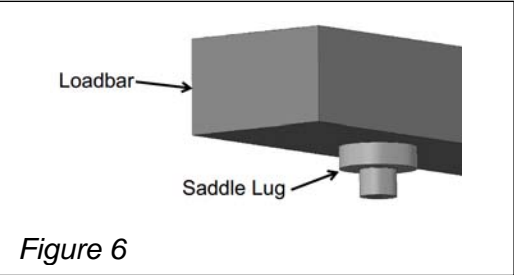
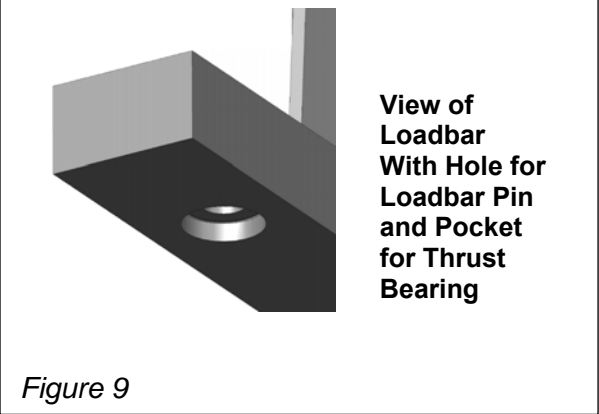

Figure 6
Figure 9
- Figure 6: detail of Saddle Lug under load bar
- Figure 9: detail of loadbar machining for use with motorized trolley
NOTE: see Figures 6 and 7 for detail of connection of two-wheel plain trolleys to the loadbar, and Figures 9, 10, 12 and 24 for detail of connection of motorized trolley.